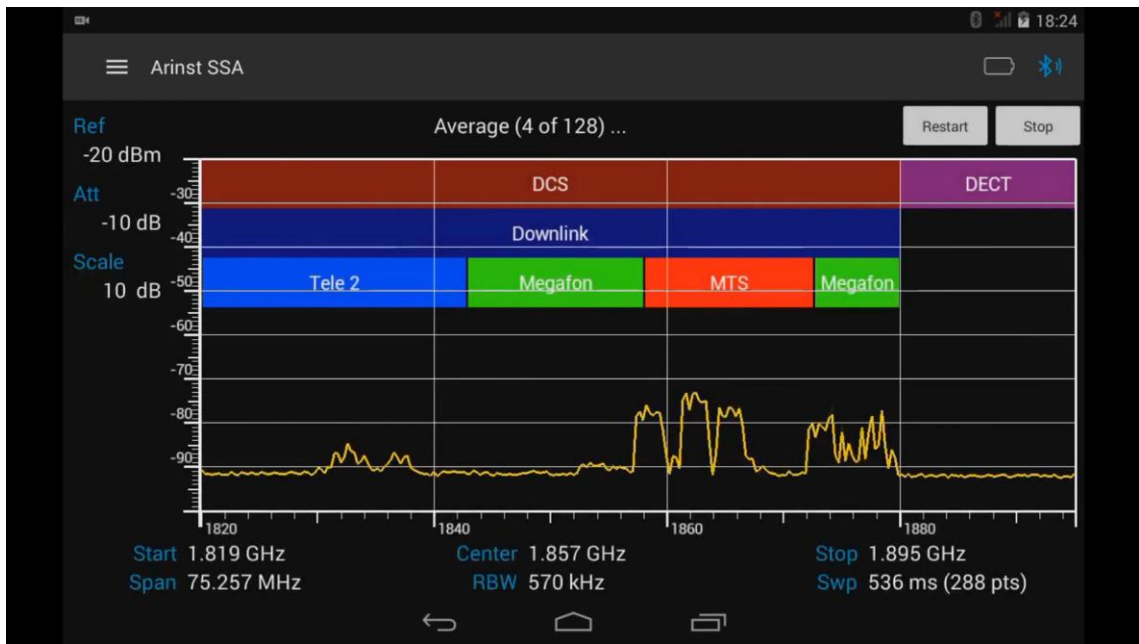

Figure 57 – Graph of the average result of scans
8.9.6. To restart the scan, press the **Restart** button, to stop the scan, press the **Stop** button, in the upper right corner of the tablet/smartphone screen, figure 57.